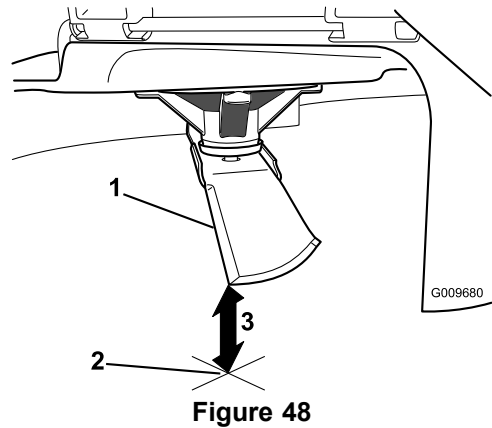

Figure 48
- Measure from the tip of the blade to the flat surface (Figure 48).